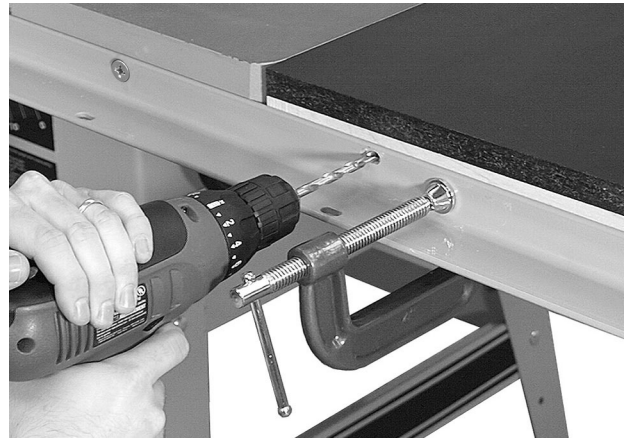

Figure 11
6. When extension table is properly aligned and clamps are tight, drill holes into the wood table using the holes in the rails as your guide, as follows (Figure 11).